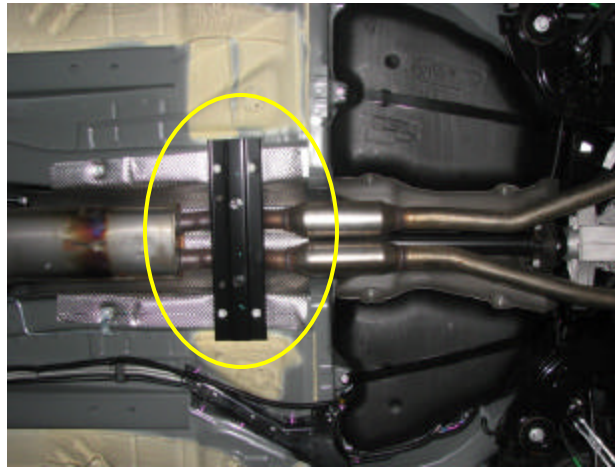

Figure 1: Removal of center support bar
4. Unplug all four (4) oxygen sensors from the vehicle's wire harness, remove them and set them aside so they do not get damaged during the installation the headers. Label the front and rear sensors for reinstallation later.
6. Remove the center support bar under the car to allow movement of the exhaust system (Figure 1).